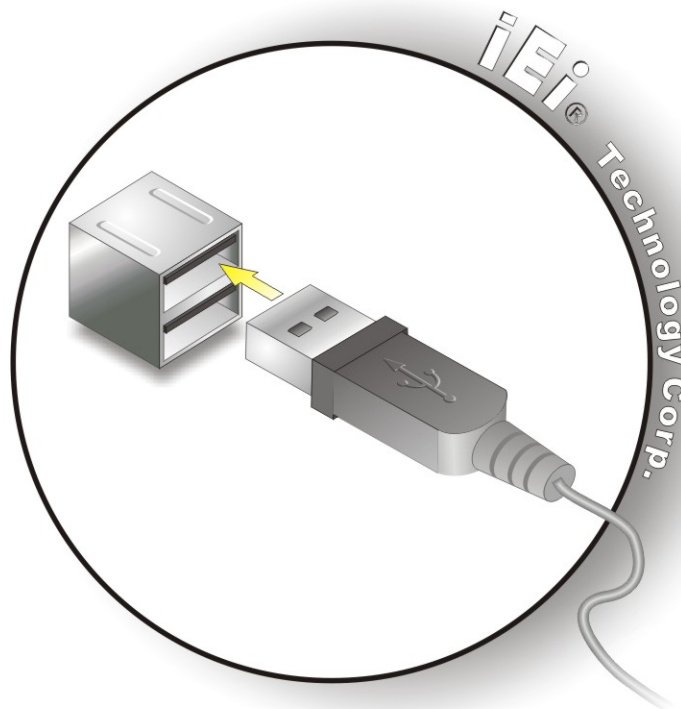

Figure 3-22: USB Device Connection
Step 2: **Align the connectors.** Align the USB device connector with one of the connectors on the bottom panel. See **Figure 3-22**.